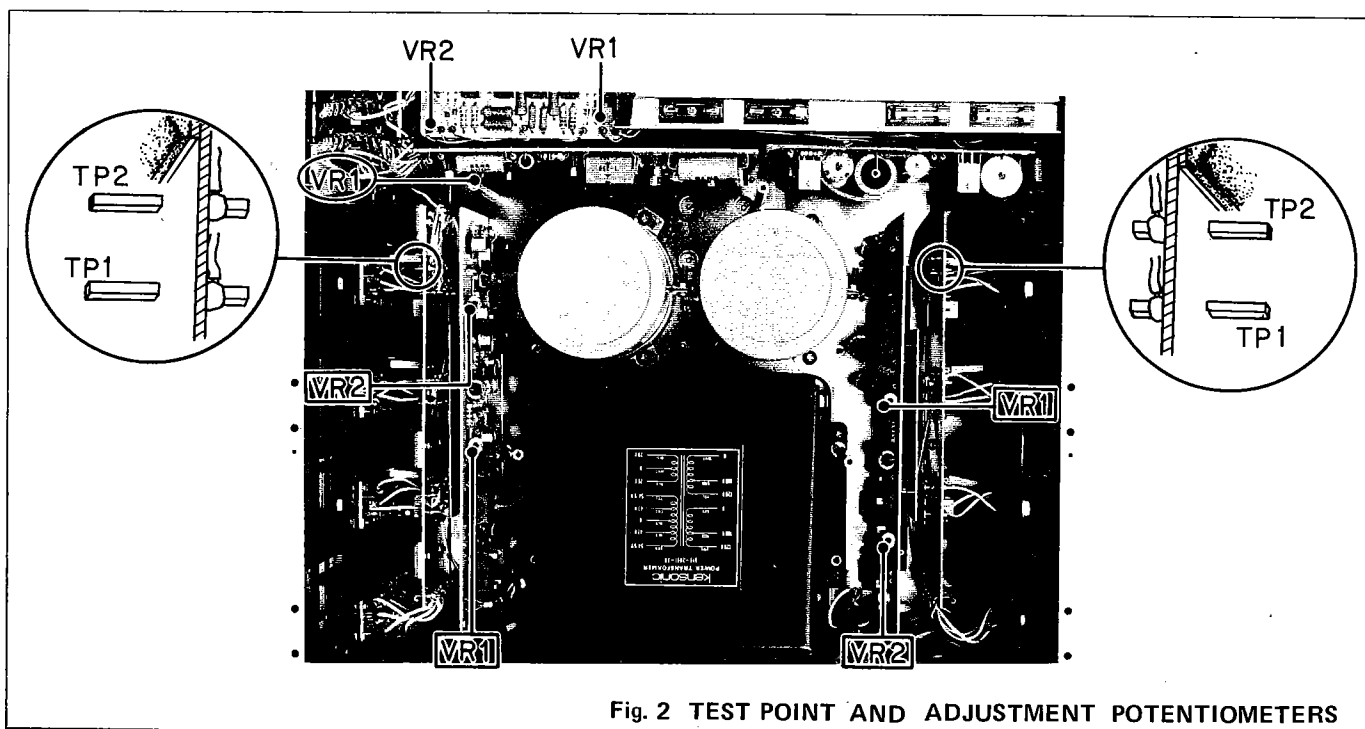

Fig. 2 TEST POINT AND ADJUSTMENT POTENTIOMETERS
3. With METER RANGE switch set at "0dB" position, adjust VR1 (left channel) and VR2 (right channel) (see Fig. 2, top two adjustments) so that the Power Level meter indicates 0dB.
2. Turn the Protection Assembly (VR1) (Fig. 2, upper side control) to full clockwise position.
This amplifier is equipped with testing points TP1 and TP2 as shown in Fig. 2 for bias current adjustment. This current is calculated from the voltage that is measured across these test points, as follows:
3. Adjust Main Drive Assembly **VR2** (see Fig. 2) so that the meter indicates 0.07V which represents a current flow of about 100mA. (Turning VR2 in counterclockwise direction increases the current flow.)
2. Switch power ON and, under no signal conditions adjust **VR1** of the Main Drive Assembly (see Fig. 2) so that the meter indicates 0 volts.